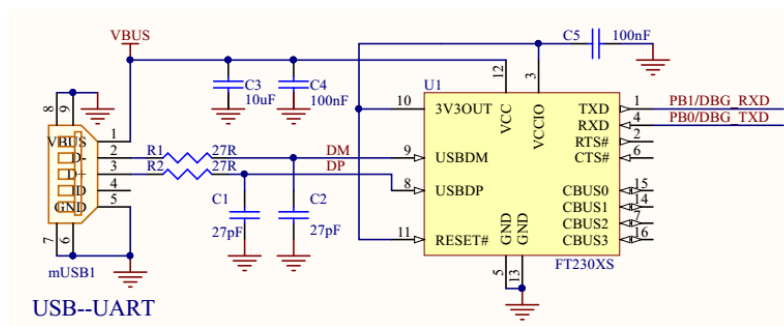

FIG. 11 USB port reference circuit.
- (1) Cabinet oven
- (2) Anti-static and heat-resistant trays
- (3) Anti-static gloves
- The clear module factory storage conditions are as follows (storage environment as shown in Section 5.4 of Figure 11):